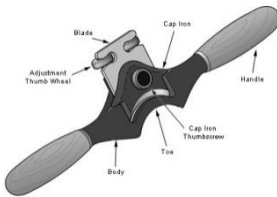

Figure 35: Round-faced spokeshave
- **Round Faced** – for smoothing concave edges (Figure 35).